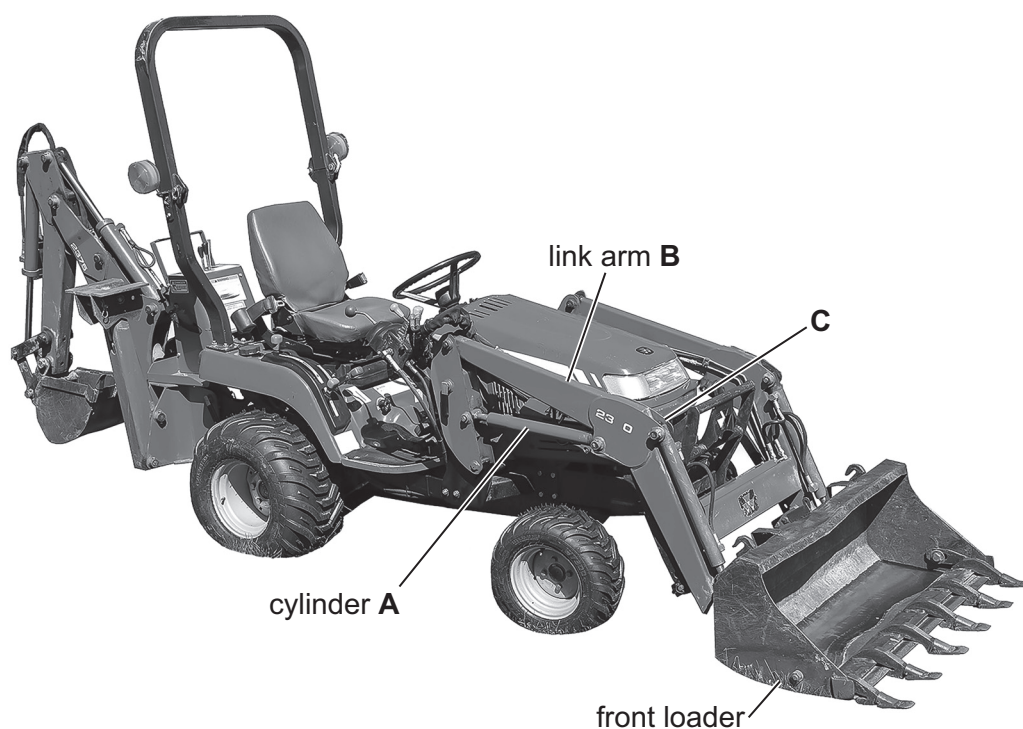

Figure 11.1
11 (a) Figure 11.1 shows a tractor with a front loader.
- (iii) Figure 11.3 shows an enlarged view of **C** in Figure 11.1. Component **D** is a grease nipple.